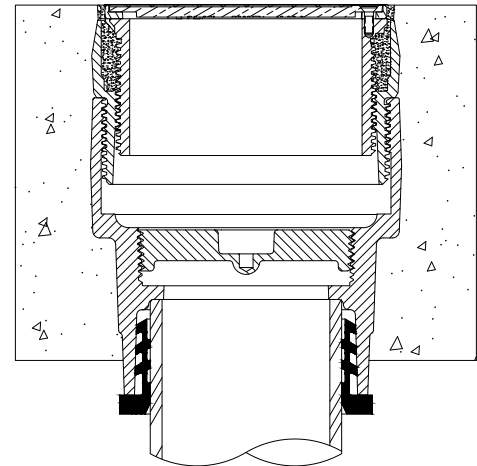

Fig. 10R
10. Turn head assembly clockwise until top of cover is flush with the finish floor. Wipe away excess silicone. Remove protective label once construction is complete. See Fig. 10R